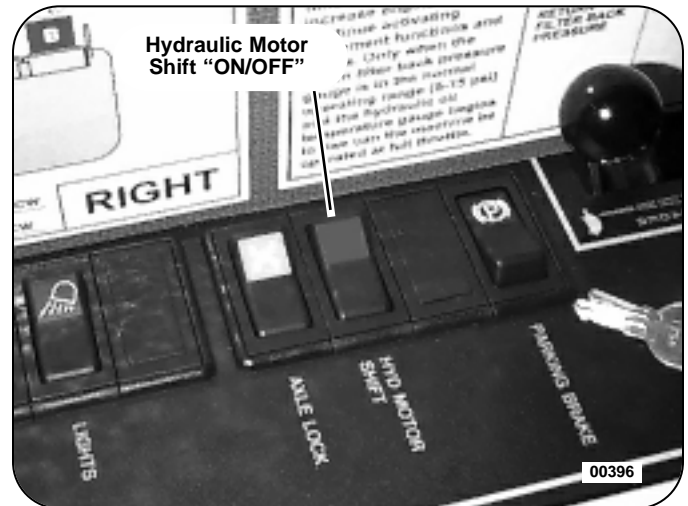

Figure 19: Hydraulic Motor Shift Control
7. Start engine and set the hydraulic motor shift control to the "OFF" position. See Figure 19.